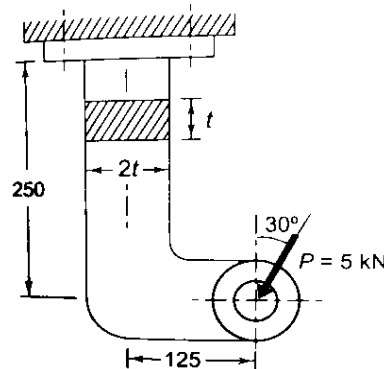

Fig.1
- (c) A bracket made of steel (yield strength of 200 MPa) and subjected to force of 5 KN acting at 30 degree to vertical as shown in fig 1. The factor of safety is 4. Determine dimension of cross section of bracket. 07